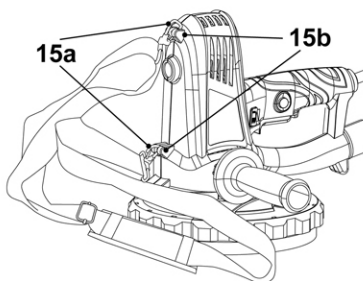

Fig. 6
- > Attach both hooks (15a) to the two brackets on the enclosure (15b) as shown (Fig. 6).
- > Adjust the length of the harness (15) which enables a proper carrying of the product on one shoulder.